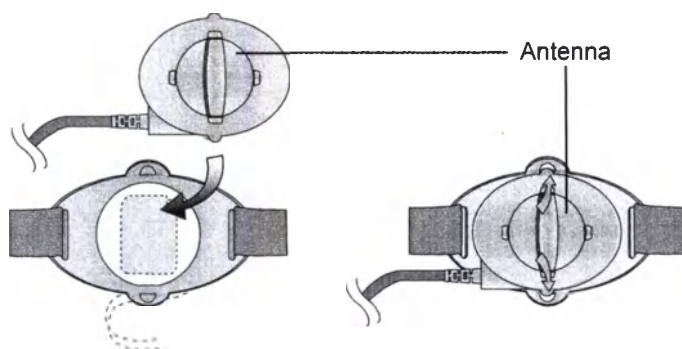

Figure 2.3 Attach the antenna.
3. Place the antenna in the template or opening, and press it into the belt or holster until it snaps into place (Figure 2.3).